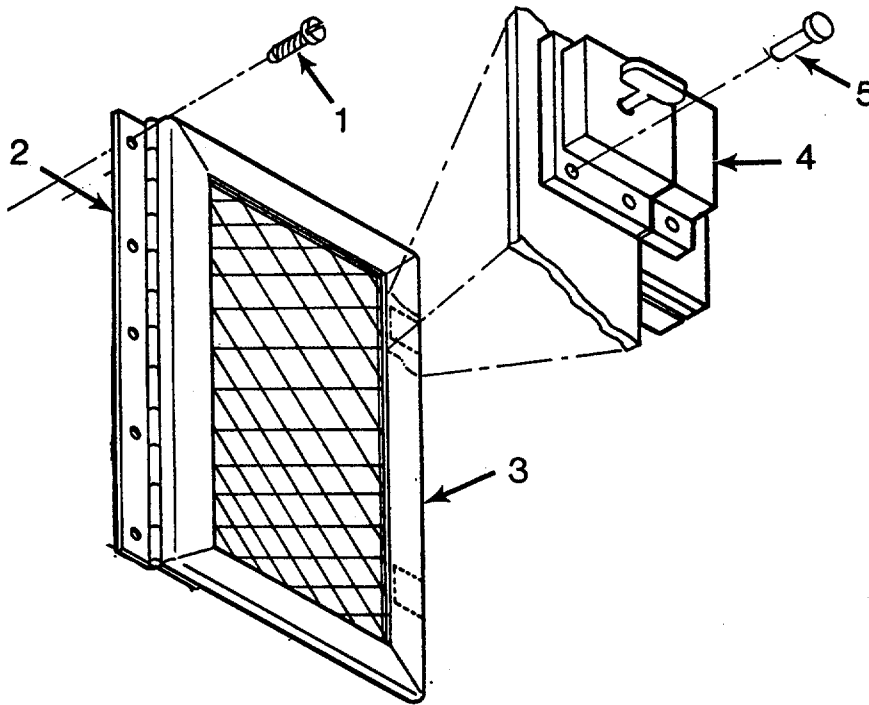

Figure 4-11. Sidewall Vent Assembly
- a. Repair by replacing housing sidewall vent assembly. (See figure 4-11.)
- (1) Remove five self-tapping screws (1) along top of hinge (2).
- (2) Using a flat-tip screwdriver, carefully pry vent assembly away from AC housing sidewall (3).
- (3) Align replacement vent assembly hinge (2) along hinge line and secure in place with five self-tapping screws (1).
- b. Repair by replacing sidewall vent assembly door latch (4). (See figure 4-11.)
- (1) Using an electric drill, drill out rivets (5) in latch (4) and remove latch (4).
- (2) Install replacement latch (4) using blind riveter and pop rivets.